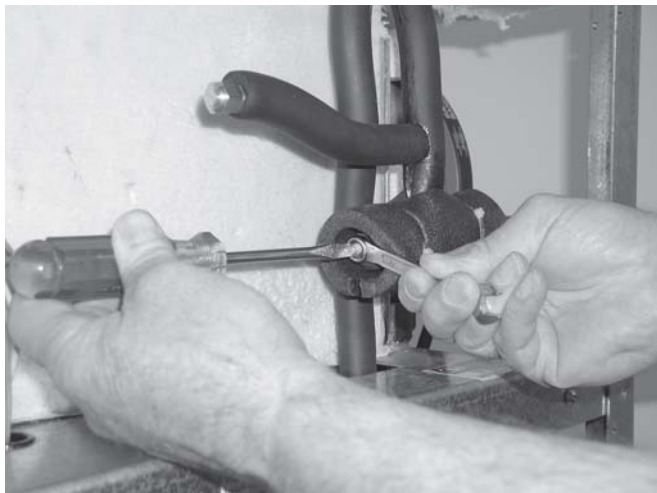

Figure 20. EPR Valve Adjustment
- Loosen the lock nut on the E.P.R. valve and using a small screwdriver, turn the valve stem 1/4 (90°) turn counter clockwise for more cooling or clockwise for less cooling. Figure 20.